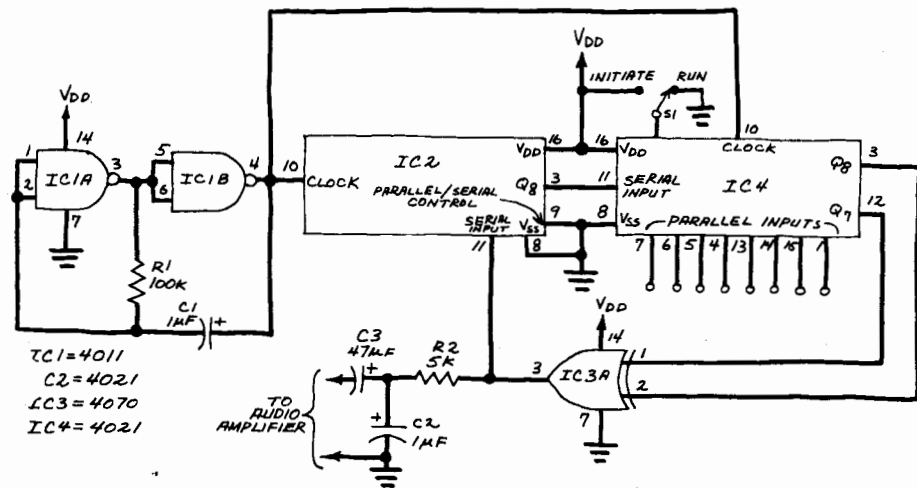

Fig. 1. Schematic diagram of a pseudo-random sequencer made from CMOS shift registers.
**Pseudorandom Sequencer.** Figure 1 is the schematic of a pseudorandom generator whose operation is patterned after the S2688/MM5837 shift-register noise generator that was described in the March 1980 installment of this column. The circuit consists of two 8-bit 4021 CMOS shift registers (IC2 and IC4) cascaded to form a single 16-bit register.